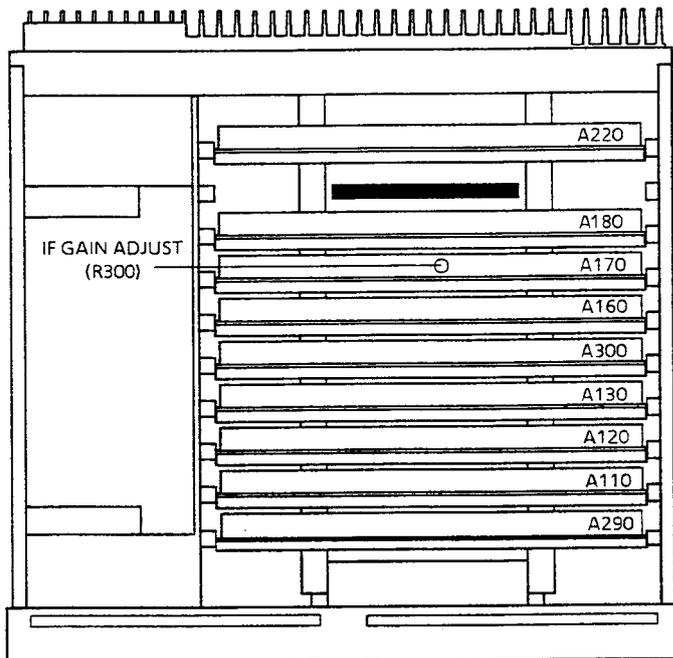

Fig. 4-6 Position of the potentiometer IF GAIN ADJUST, R300 (instrument seen from above)
- ▶ An indication outside this range requires the level indication to be set to 90 dB $\mu$ V  $\pm$  0.2 dB by turning the potentiometer IF GAIN ADJ R300 (cf. fig. 4-6). Then readjust R701 on the I/Q Demodulator module, if required.